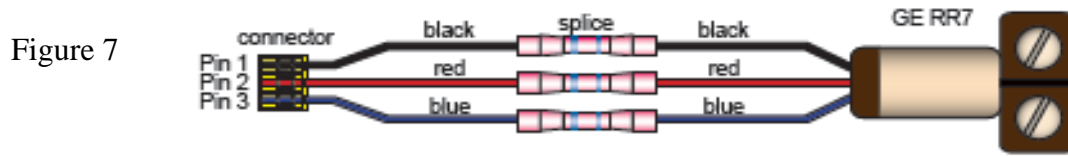

Figure 7
The APK3 is designed to convert relay panels containing GE RR7 or ILC 2R7 relays. Both relay types use 3-wire control. Relay wires connect to the APK-kit relay interface board. Butt splice connectors are provided to connect the relay wires to the pigtails (Refer to figure 7). This kit comes standard with pigtails and butt-splice connectors. Special timesaving pigtails may be ordered. Refer to the following section for installation details.
1. Starting with relay #1, splice each wire of the relay to that of the pigtail. Refer to Figure 7.